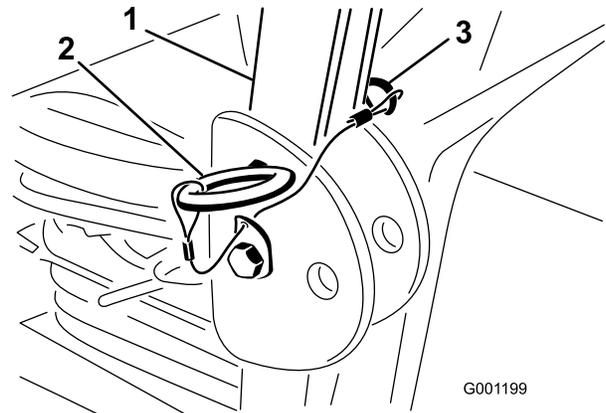

Figure 30
1. To lower the roll bar, remove the hairpin cotter pins and remove the two pins (Figure 30).
3. Install the two pins and secure them with the hairpin cotter pins (Figure 30).
- To raise the roll bar, remove the hairpin cotter pins and remove the two pins (Figure 30).
- Raise the roll bar to the upright position and install the two pins and secure them with the hairpin cotter pins (Figure 30).